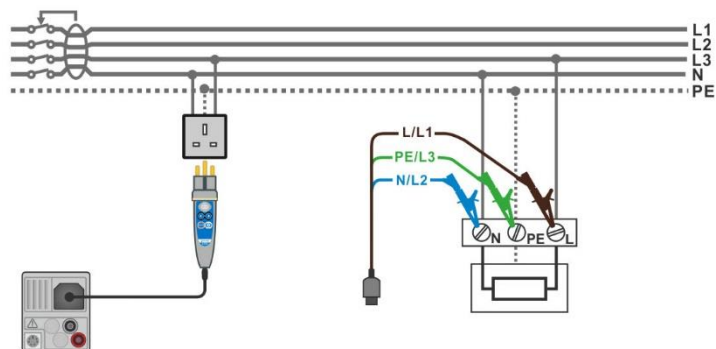

Figure 7.114: Z auto measurement
- Connect test leads or Plug commander to the object under test, see **Figure 7.114**.